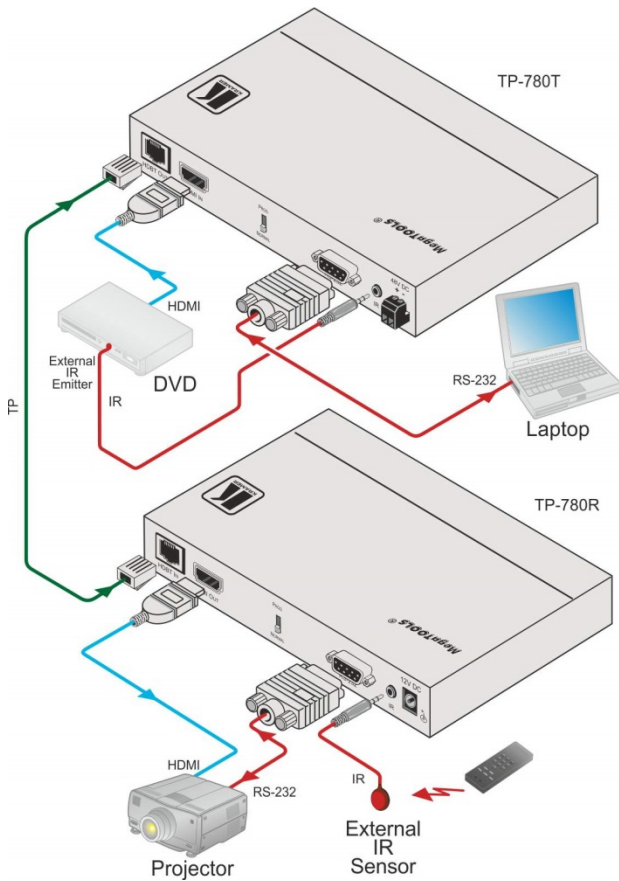

Figure 3: Connecting the TP-780T/ TP-780R Transmitter/Receiver Pair
You can use the **TP-780T/R** *HDMI Line Transmitter/Receiver + POE* to configure an HDMI transmitter/receiver system, as shown in the example in Figure 3.
5. 48V DC power adapter to the power socket and connect the adapter to the mains electricity (not shown in Figure 3).
5. If the POE does not effectively power the **TP-780R**, connect the 12V DC power adapter to the power socket and connect the adapter to the mains electricity (not shown in Figure 3).